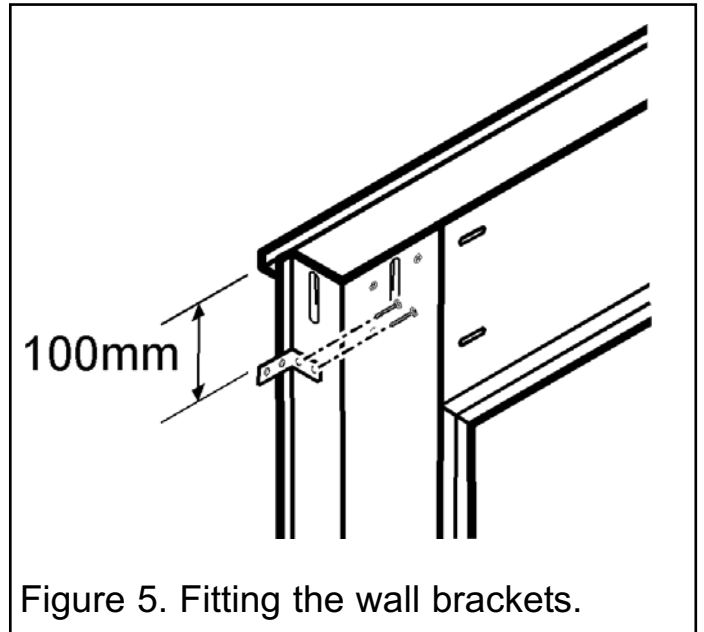

Figure 5. Fitting the wall brackets.
- Place the wall fixing brackets (E) 100mm from the top outside edge of the legs as shown in figure 5. Secure in place using four (F) screws.